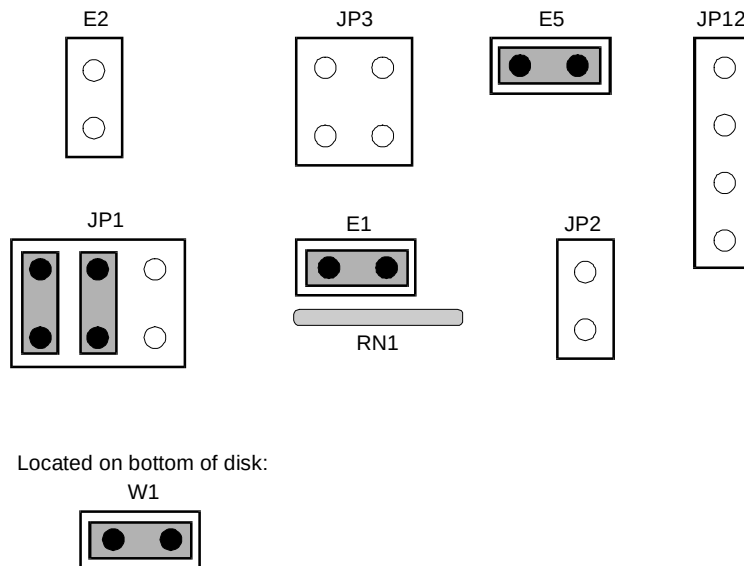
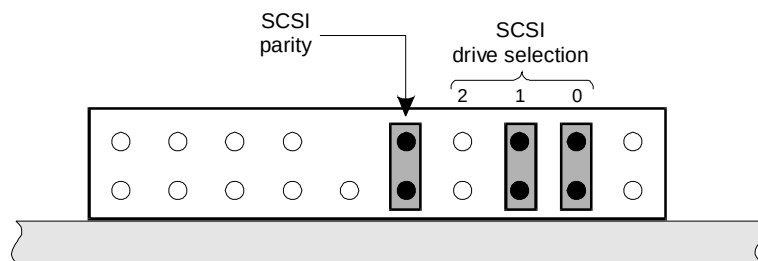

Figure C-25. Jumper Settings for the 525-Mbyte SCSI Cartridge Tape Drive
Figure C-26. Jumper Settings for the 2-Gbyte SCSI Cartridge Tape Drive
5. Verify jumpers are set correctly on the drive you intend to install. See Figure C-25 and Figure C-26 below.